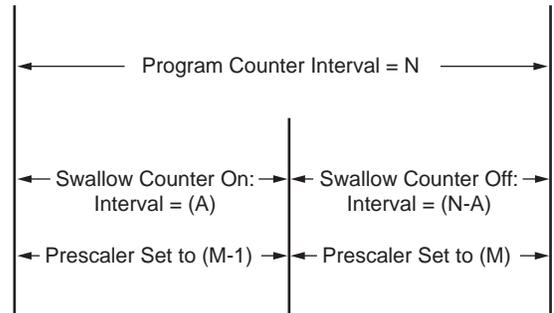

Figure 14. Prescaler M Under the Control of Swallow Counter A
Figure 14 shows the relationship among the (M+1), (M), (N), and (A) counters:
- While the swallow counter is on, the division ratio = (M+1) * (A)
- While the swallow counter is off, the division ratio = (M) * (N-A)
- The total number of pulses counted during the interval N is the sum: (M+1) * (A) + (M) * (N-A) = (N * M) + A